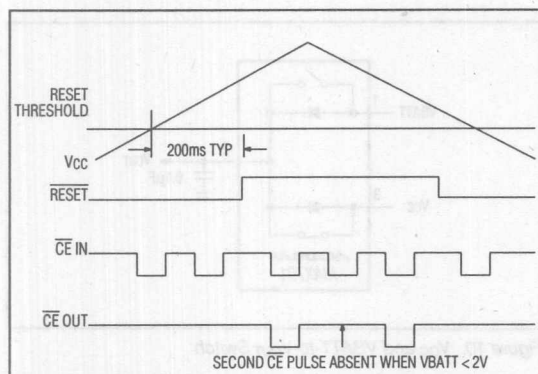

Figure 11. Backup-Battery Monitor Timing Diagram
The MAX791 low-battery voltage function monitors VBATT. Low-battery detection of $2.0\text{V} \pm 0.15\text{V}$ is monitored only during the reset-timeout period (200ms) that occurs either after a normal power-up sequence or after the MR reset input has been returned to its high state. If the battery voltage is below 2.0V, the second CE pulse is inhibited after reset timeout. If the battery voltage is above 2.0V, all CE pulses are allowed through the CE gate after the reset timeout period. To use this function, after the 200ms reset delay, write 00 (HEX) to a location using the first CE pulse, and write FF (HEX) to the same location using the second CE pulse following RESET going inactive on power-up. The contents of the memory then indicates a good battery (FF) or a low battery (00) (Figure 11).